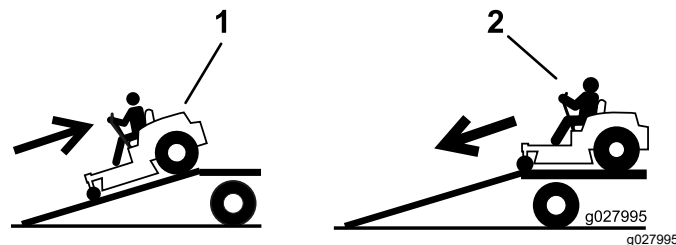

Figure 29
4. Back the machine up the ramp (Figure 29).
2. Drive the machine forward down the ramp (Figure 29).